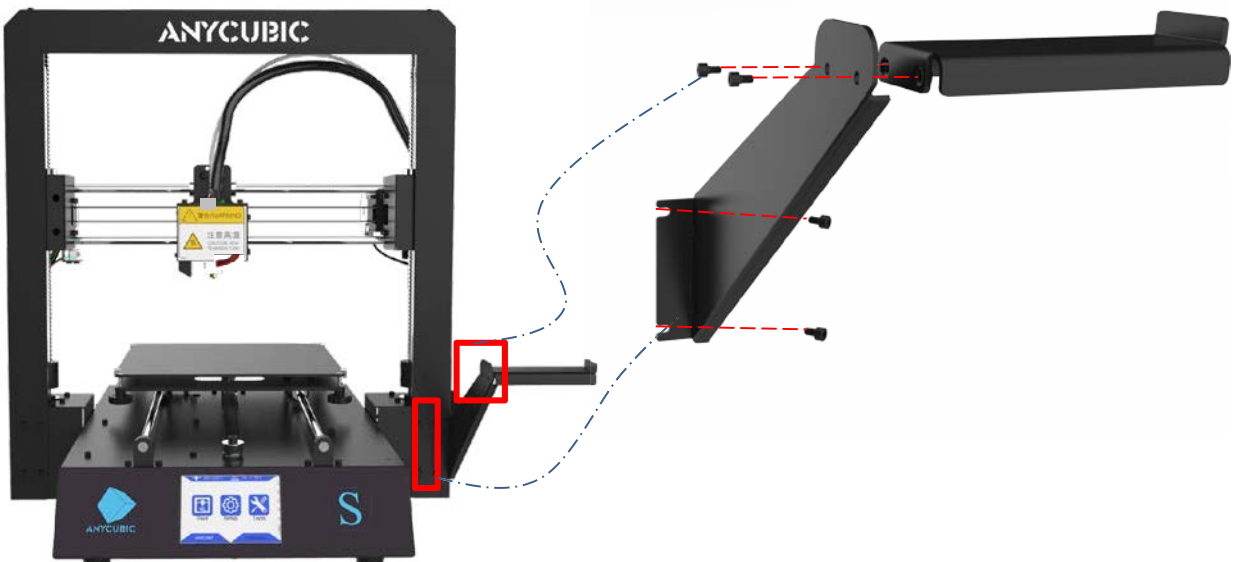

Figure 2
(2) Use two M3*5 screws to install the filament holder, then screw out two M3*5 screws that holding the frame to the base and fix the filament holder to the frame by these two M3*5 screws as shown in **Fig.2**.